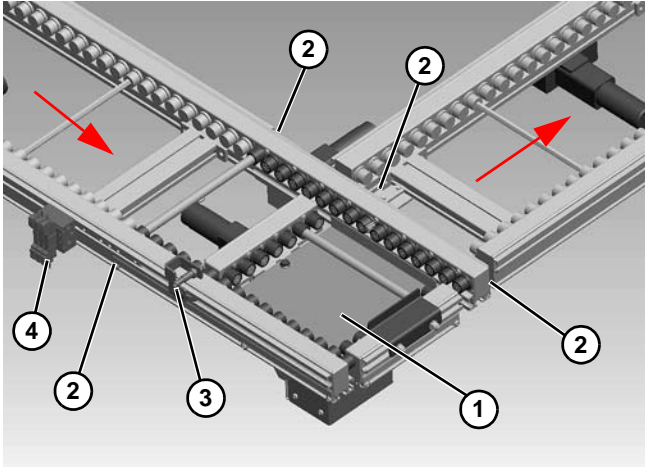

Figure 28
1. Install and adjust Lift and Transfer module (Figure 28, item 1).
2. Connect transfer conveyor with connecting brackets (Figure 28, item 2).
3. Locate and install pallet sensor (Figure 28, item 3). (Refer to “Sensor Mounts” starting on page 7.)
4. Install and connect pneumatic solenoids (Figure 28, item 4), provided by others.